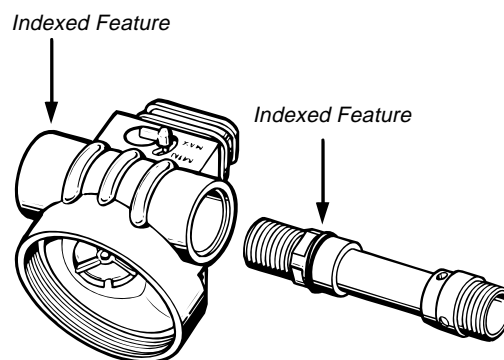

Fig. 16 - Valve Body / Box Bottom Alignment
16. Insert the inlet end of the valve body through the round opening in the adjustment side of the box bottom. Rotate the valve body until the large hole in the center of the tube is facing towards the vane inside the outlet boss, and the indexed (squared) shoulder is correctly aligned with the indexed opening of the box bottom (see Fig. 16). Gently press the valve body into place, until it is securely seated and the indexed shoulder is flush with the surrounding outer surface of the box bottom.